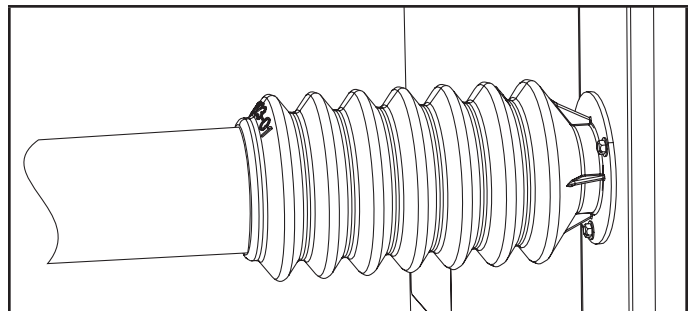

FIGURE 30. Install Armaflex Over End of Sleeve and Clamp
- 4 - Install a piece of field-supplied Armaflex over the band clamp and the end of the mitigation sleeve to prevent sweating (see figure 30).